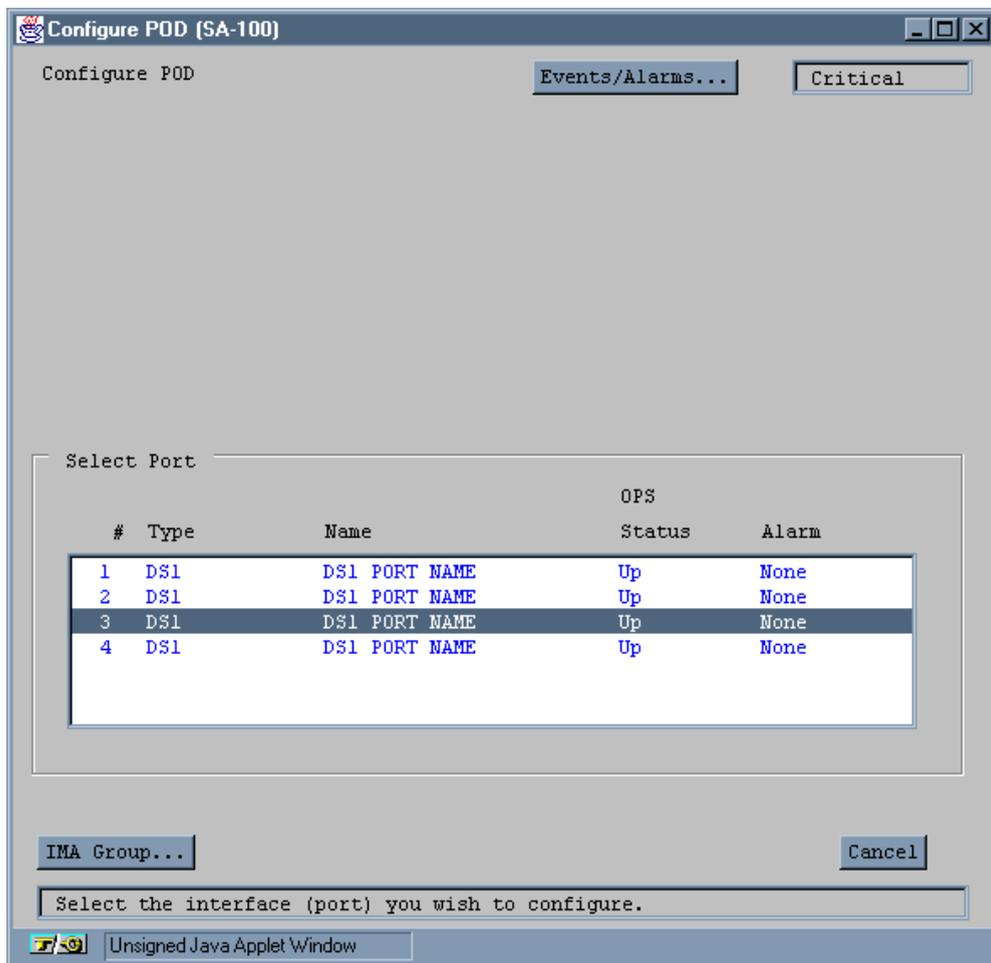

Figure 4-7. Configure POD Window
1. Select the IMA DS1 or E1 POD from the Interface Management window. The Configure POD window appears (Figure 4-7 on page 4-22).